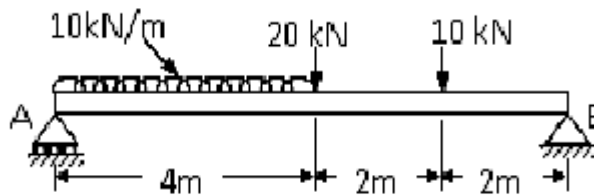

Fig:1
- b). A beam AB is supported and loaded as shown in fig.1. Find the Reactions at the Supports.